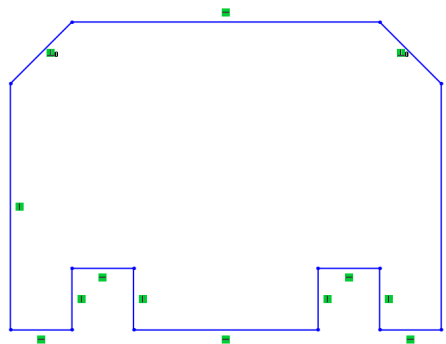

Figure 2-70 Outer loop of the sketch
21. Choose the **Zoom to Fit** tool from the **View (Heads-Up)** toolbar to fit the current sketch into the screen. The outer loop of the sketch is completed and is shown in Figure 2-70. Note that in this figure, the grid display and the **Shaded Sketch Contours** settings are turned off for better visibility. To turn off the grid display, right-click in the drawing area and then choose the **Display grid** option from the shortcut menu displayed.